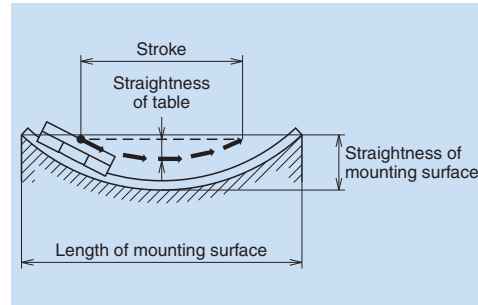

Fig. 10.4
(1) Accuracy of the mounting base of machine
- However, when two or more slides are assembled to each rail, the table stroke becomes shorter than the mounting surface. This, along with the fact that the mounting error is evenly spread, contributes to a higher table accuracy than the mounting surface accuracy, reducing the error to about 1/3 in average (Fig. 10.4).